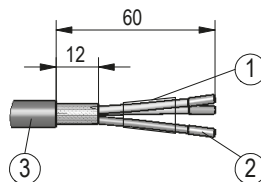

Fig. 10: Cable preparation
1. Prepare wire accord. to Fig. 10.